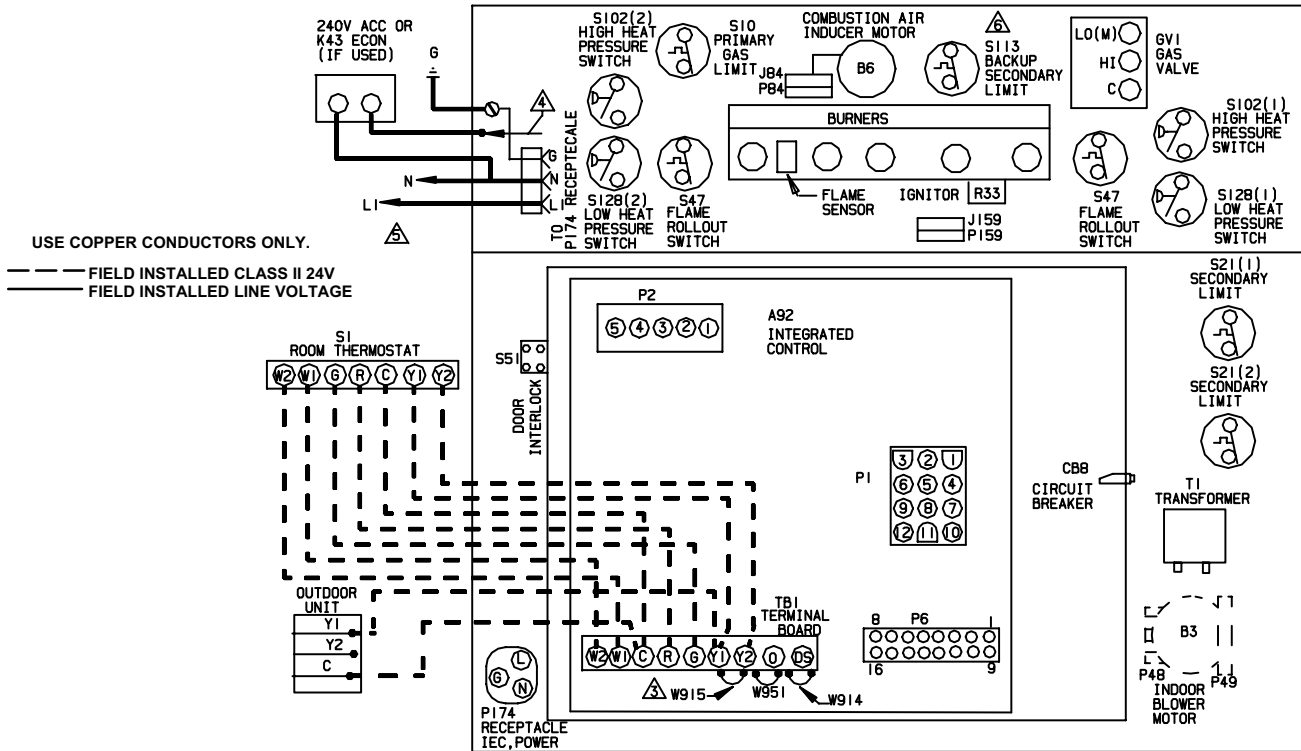

FIGURE 31
Refer to figure 31 and table 9 for field wiring and figure 32 for schematic wiring diagram and troubleshooting.
- 4 - Complete the wiring connections to the equipment. Use the provided unit wiring diagram and the field wiring diagram shown in figure 31 and table 9. Use 18-gauge wire or larger that is suitable for Class II rating for thermostat connections.